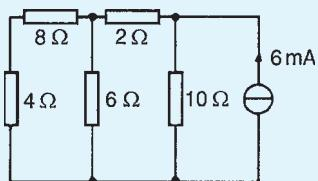

Figure 13.64
3. Determine the current flowing in the  $6\Omega$  resistance of the network shown in Fig. 13.64 by using Norton's theorem. [2.5 mA]